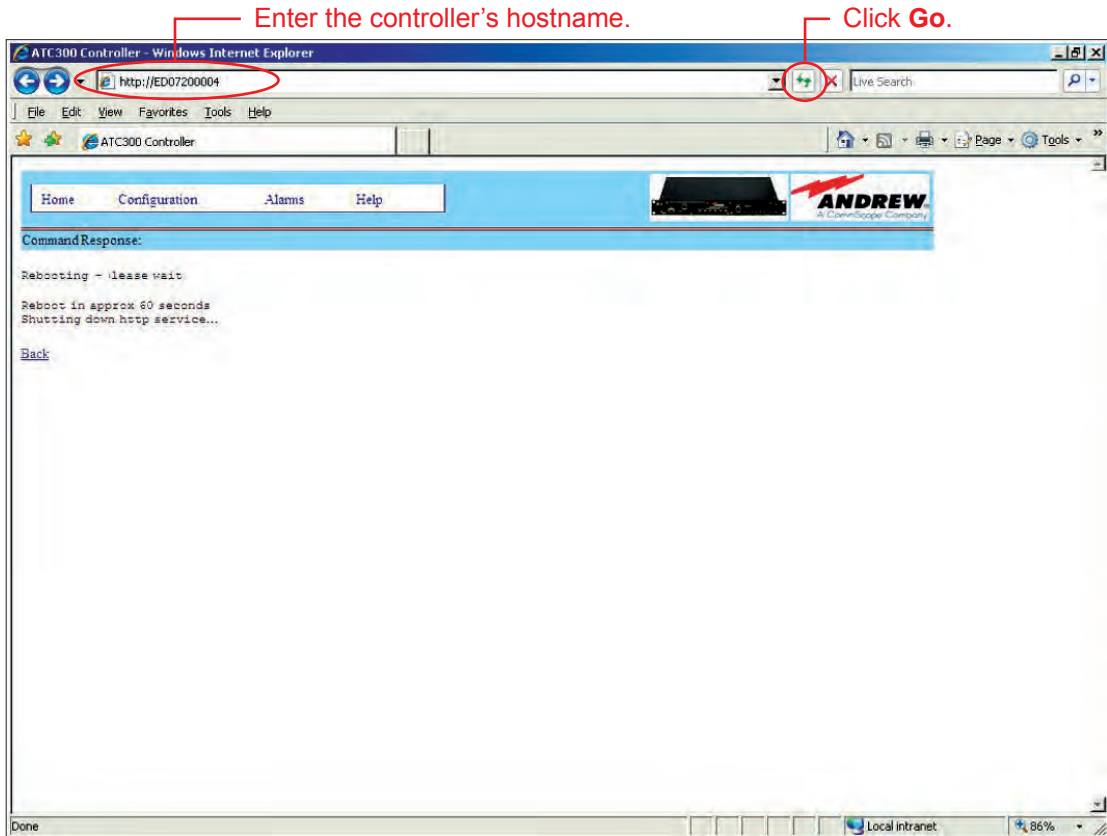

Figure 7-6. Setting Up DHCP For Access Over a Network.
- New IP settings are applied to the controller when the controller is rebooted (Figure 7-6). Upon reboot, the connection between the controller and the local computer will be lost. To regain access to the controller from the local computer, the IP settings on the computer will need to be restored to the settings that were compatible to the company LAN (network system).
- Enter the controller's hostname, copied above, into the URL address window, and click on **Go**. See Figure 7-6.